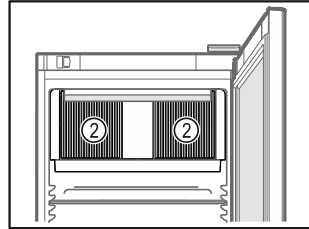

Fig. 57
- Ventilation slots Fig. 57 (2) for recirculation fan in the interior must be kept clear.